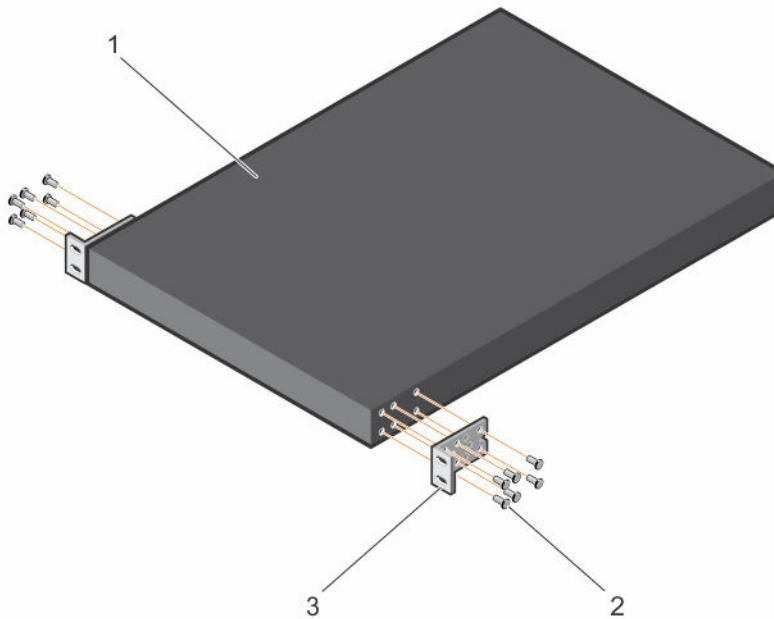

Figure 6. Attaching Mount Brackets to the C1048P
2. Secure the bracket (item 3 in Figure 6) to the chassis by tightening the screws (item 2 in Figure 6) provided with the mount bracket.